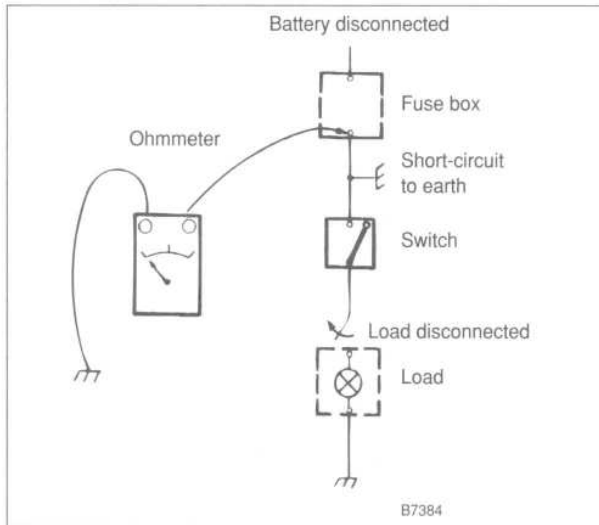

Fig. 4. Ohmmeter being used to find short circuit.
3. Using an ohmmeter, connect one test lead to the load side of the fuse terminal (terminal leading to the circuit) and the other test lead to ground. See Fig. 4.